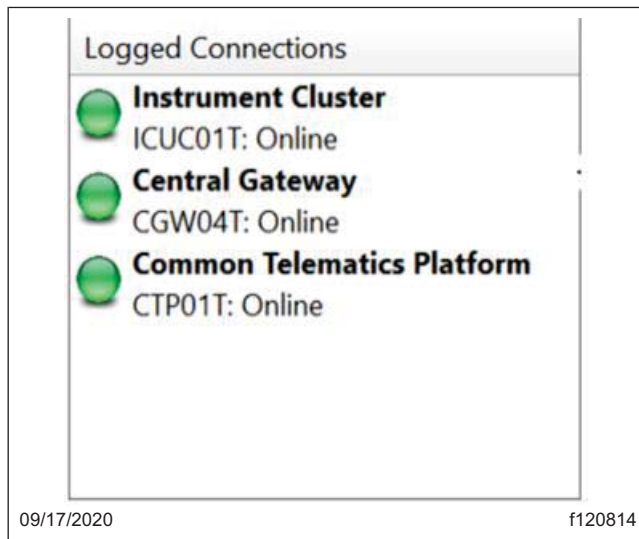

Fig. 2, DiagnosticLink Connections Panel
8. Wait until all three controllers are fully connected and the connection indicators turn green. See **Fig. 2**.